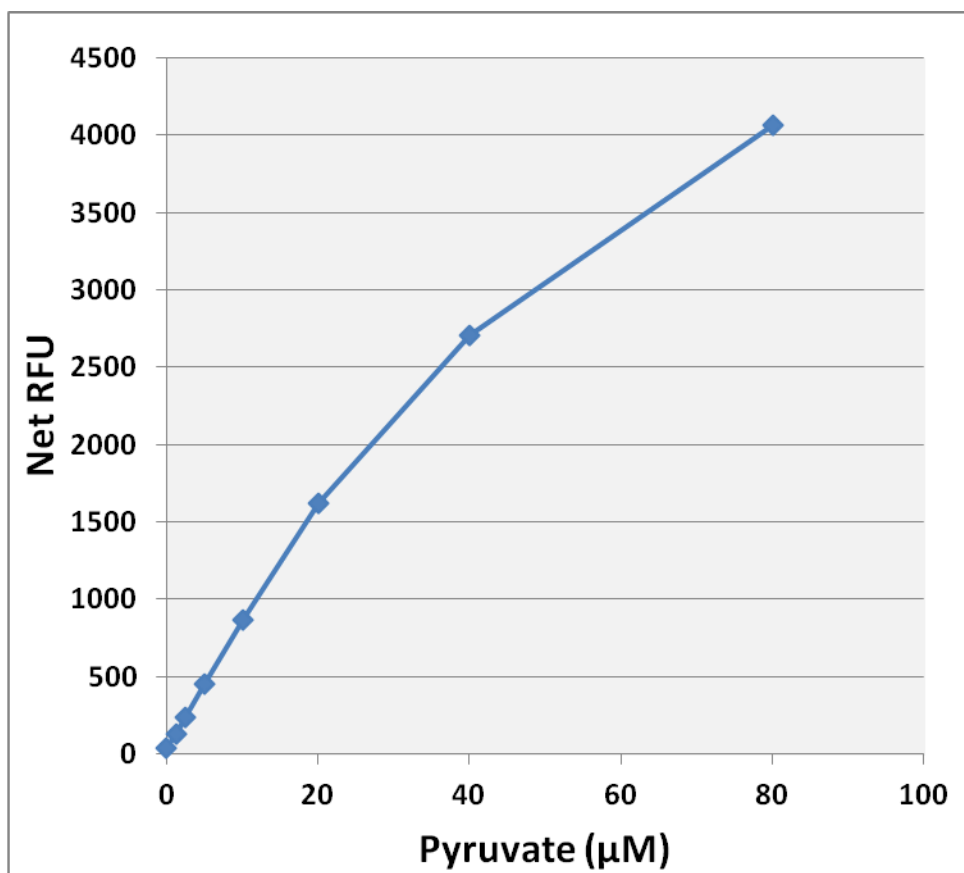

Figure 2: Pyruvate Standard Curve.
3. Graph the standard curve (see Figure 2).